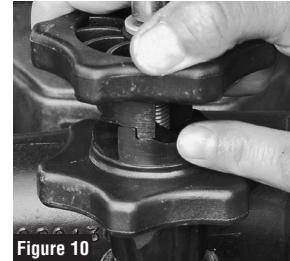

Figure 10
2. Holding the bottom adjusting knob stationary, turn the top adjusting knob clockwise until the top of the stair-step cam slope is reached. See Figure 10.